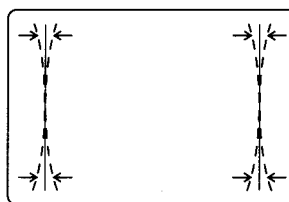

fig 2.5C
5. Adjust the parabola amp control **PA5** so that the left and right vertical lines are straight (fig 2.5C).